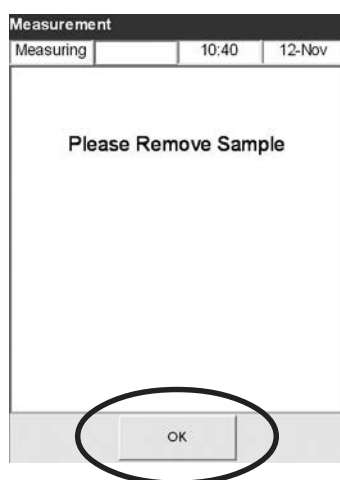

Fig. 5-5 Remove Sample
4. After the sample has been aspirated, remove the sample and confirm by pressing  (Fig. 5-5).